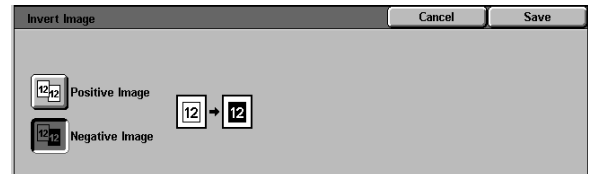

Figure 32: Negative Image screen
- 2 Touch the **Negative Image** button to display the Negative Image screen (Figure 32).